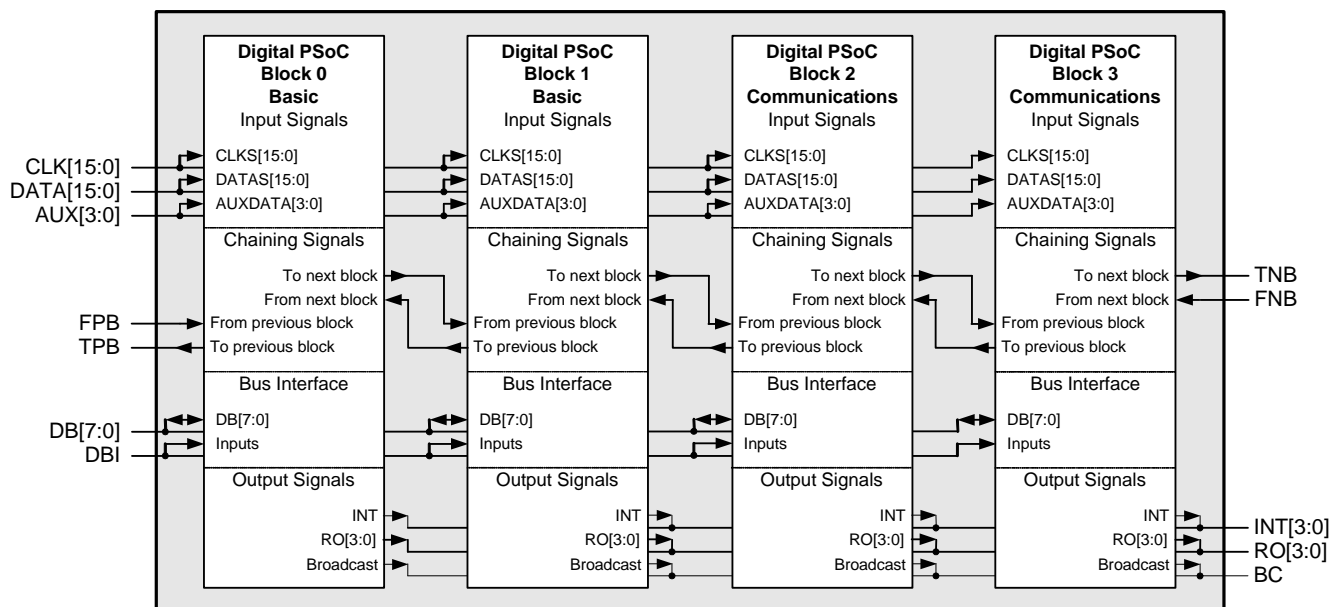
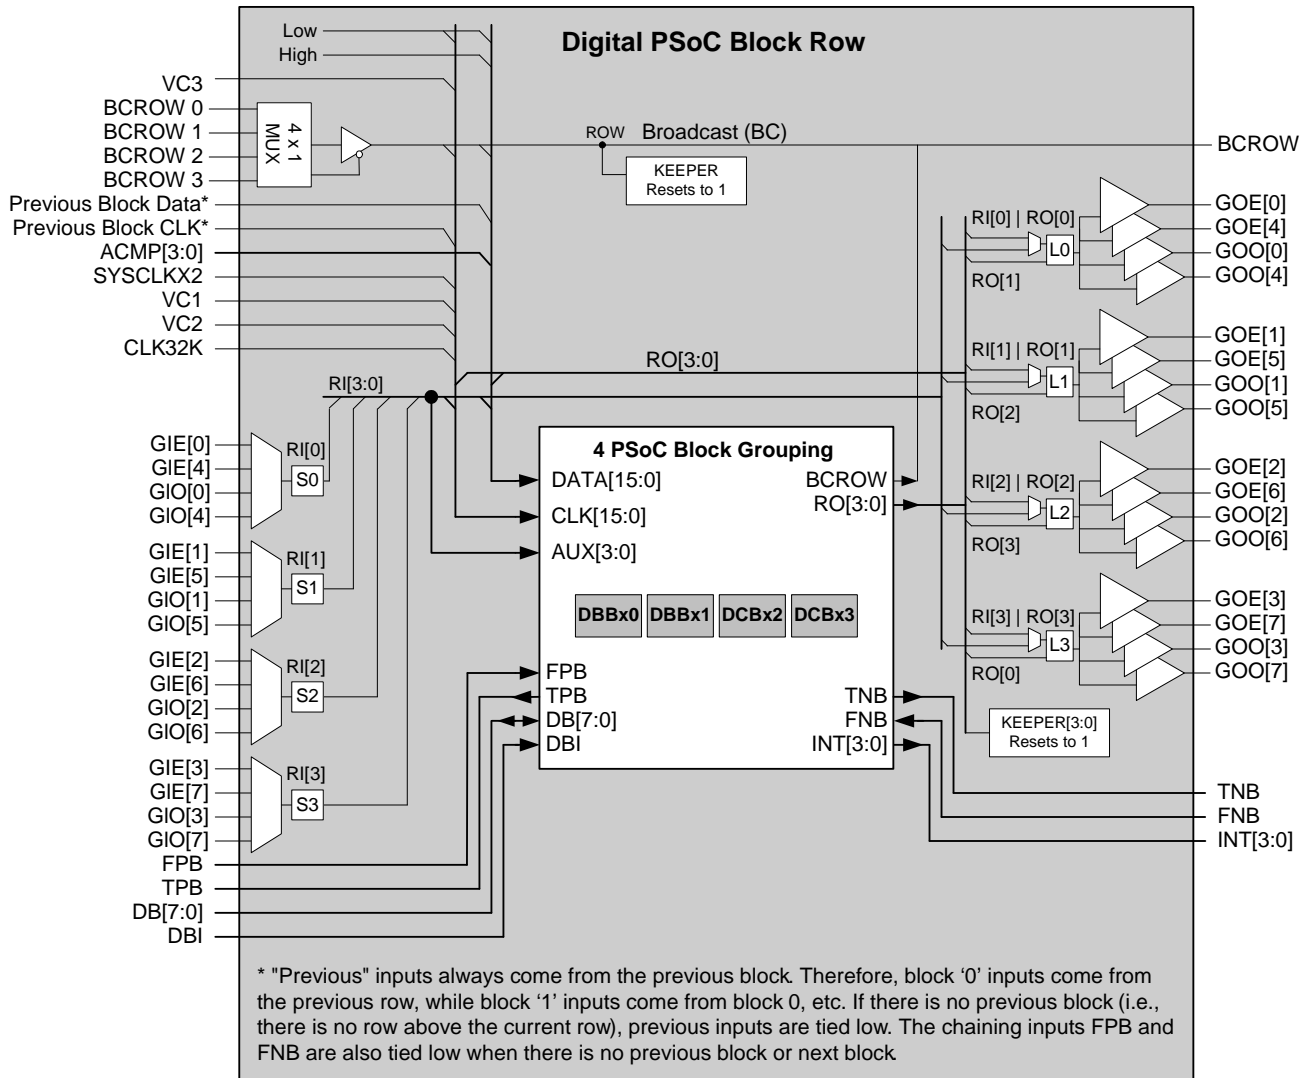

Figure 16-1. Detailed View of Four PSoC Block Grouping
Figure 16-2. Digital PSoC Block Row Structure
In Figure 16-1, within a digital PSoC block row, there are four digital PSoC Blocks. The first two blocks are of the type basic (DBB). The second two are of the type communication
(DCB). This figure shows the connections between digital blocks within a row. Only the signals that pass outside the gray background box in Figure 16-1 are shown at the next level of hierarchy in Figure 16-2 on page 326.
In Figure 16-2, the detailed view shown in Figure 16-1 of the four PSoC block grouping, has been replaced by the box in the center of the figure labeled “4 PSoC Block Grouping.” The rest of the configurable nature of the Row Inputs (RI), Row Outputs (RO), and Broadcast clock net (BC) is shown for the next level of hierarchy.
As shown in Figure 16-2, there is a **keeper** connected to the row **broadcast net** and each of the row outputs. The keeper sets the value of these nets to '1' on system reset and holds the value of the net should it become un-driven.
Notice on the left side of Figure 16-2 that global inputs (GIE[n] and GIO[n]) are inputs to 4-to-1 multiplexers. The
The only configurable inputs to a digital PSoC block row are the Global Input Even and Global Input Odd 8-bit buses. The only configurable outputs from the digital PSoC block row are the Global Output Even and Global Output Odd 8-bit buses. Figure 16-2 on page 326 illustrates the relationships between global signals and row signals.
* Refer to Figure 16-2 on page 326.
The outputs from a digital PSoC row are a bit more complicated than the inputs. Figure 16-2 on page 326 illustrates the output circuitry in a digital PSoC row. In the figure, find a block labeled Lx. This block represents a 2-input look-up table (LUT). The LUT allows the user to specify any one of 16 logic functions that should be applied to the two inputs.